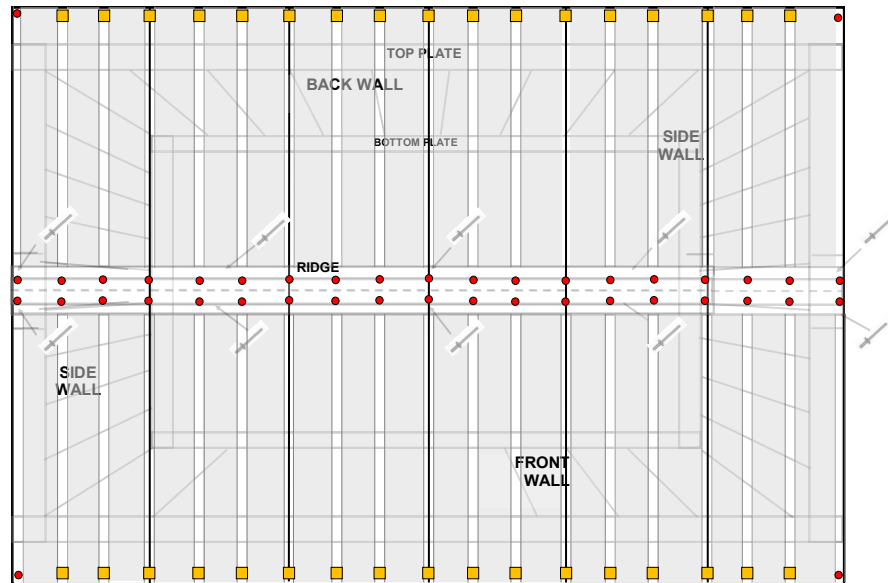

fig.2
Use the 50mm Clouts only on ribs covered by flashings, shown on pg 13 fig.2
- Secure with 2 x 75mm screws through the top of the Jack Studs into the Timber Top Plate (fig. 2).
- Rivet the 2 Ridge Caps together using 4 x rivets, so total flashing is 3.050m long. Rivet the Ridge Cap to the centre of the roof using 10 x rivets as shown (fig.2).